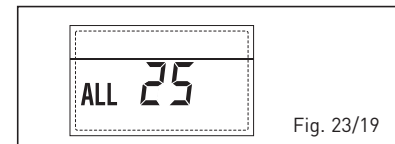

Fig. 23/19
– **ANOMALIA Sonda AUXILIAR (S3) “ALL 26”** (fig. 23/20)